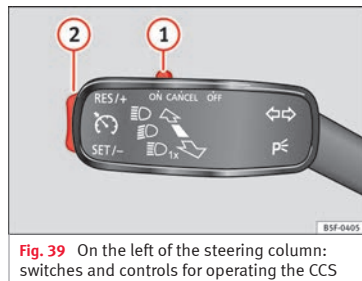

Fig. 39 On the left of the steering column: switches and controls for operating the CCS
- Switching on the CCS: Move switch » **Fig. 39 1** to **ON**. The system is on. If no speed has been programmed, the system will not control it.
- Activating the CCS: Press button » **Fig. 39 2** in the **SET/-** area. The current speed is memorised and controlled.
- Temporarily switching off the CCS: Move switch » **Fig. 39 1** to **CANCEL** or push the brake. The cruise control system is switched off temporarily.
- Reactivating the CCS: Press button » **Fig. 39 2** in **RES/+**. The memorised speed is saved and controlled again.
- Switching off the CCS: Move switch » **Fig. 39 1** to **OFF**. The system is disconnected and the memorised speed is deleted.